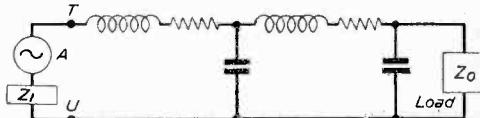

Fig. 8.—Diagram illustrating the effect of the impedance on the load.
Fig. 8 shows the scheme where we have an A.C. generator (A) with its internal impedance (Z_i), feeding into a line which is terminated with its characteristic impedance (Z_0). Under these conditions, maximum power will be transferred from the generator into the load.